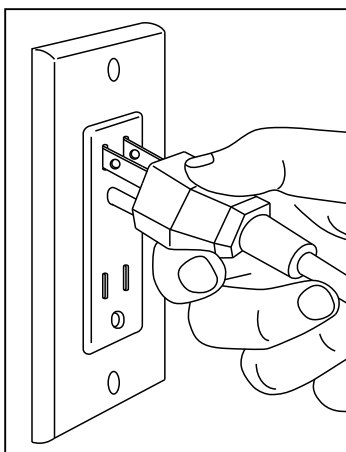

figure 1
1. Plug-in the sander's AC power cord to the power source (110-120Va.c. output). The warning "beep" sounds would be occurred after the plug is securely plug-in to the power source and the LED indicator shows "Solid Red" color at the moment.- see figure 1.